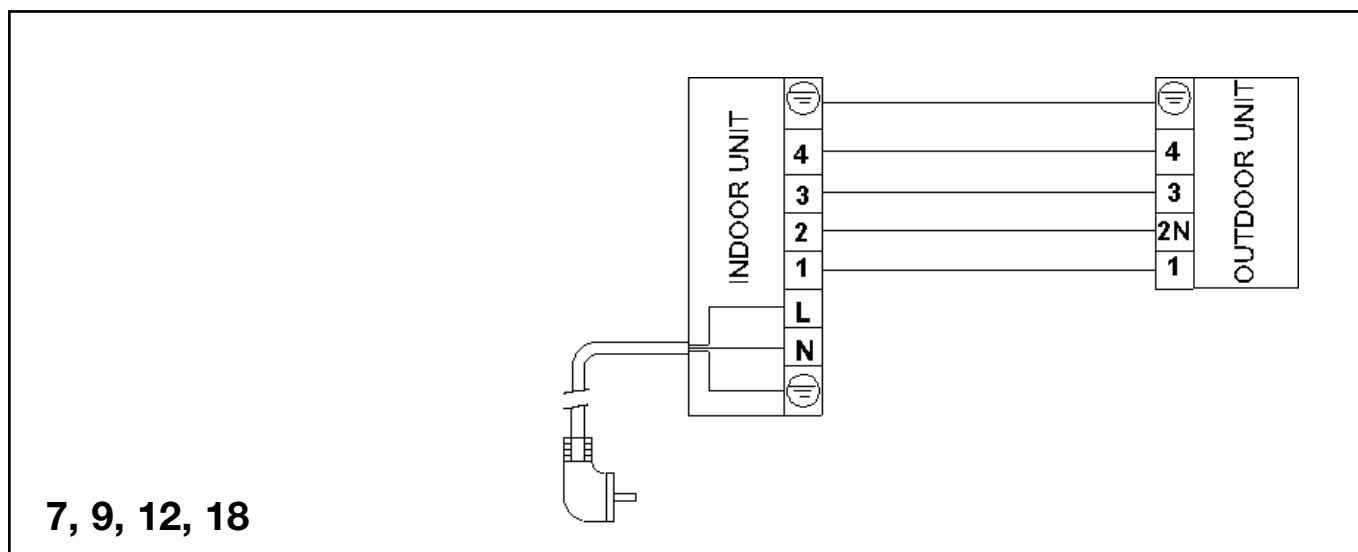

fig.17a
3. Connect the cables as indicated on the terminals (fig. 17a, 17b).
2. Connect the cables to the terminal board as indicated on the terminals and on the terminal board itself (fig. 17a, 17b).